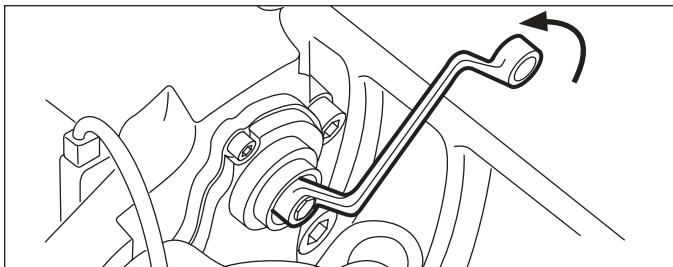

Figure 37 – Backing Off the Adjuster for Pad Removal
5.2.8 Use a 10 mm, six-point box wrench (See Figure 37) to turn the adjuster counterclockwise until sufficient space exists to remove the brake pads. A clicking noise occurs each time the adjuster turns.
- 5.2.19 Using the same tool, turn the shear adapter (61) **counterclockwise** and listen for the sound of three (3) clicks as the mechanism backs-off (increases) the running clearance. (See Figure 37).